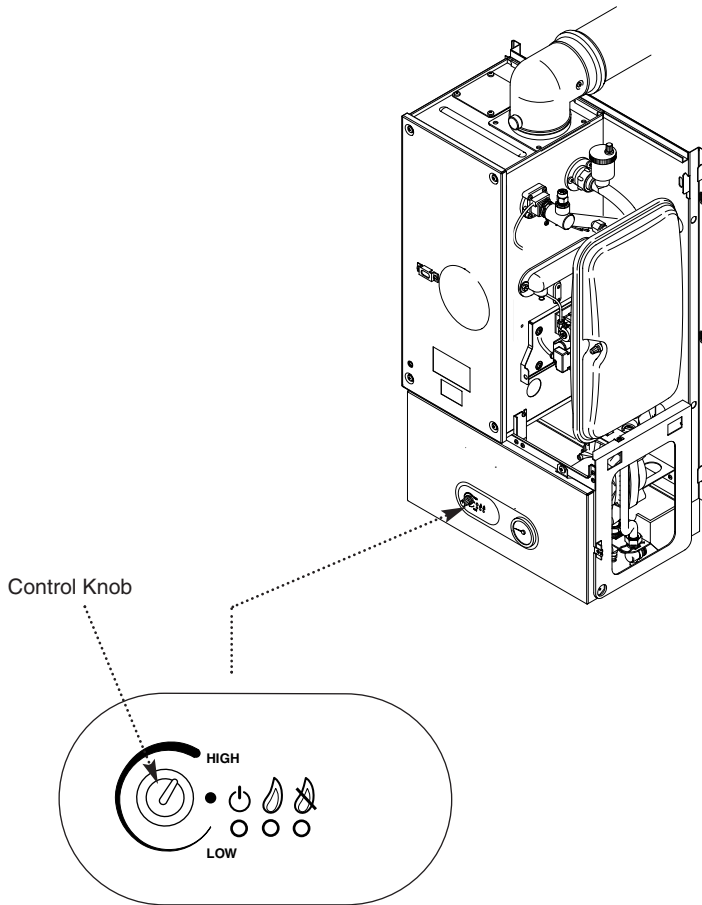

Fig. 34
6. Turn the boiler control knob fully clockwise to 'HIGH' (Fig. 34) and run the system and check the boiler for correct operation.